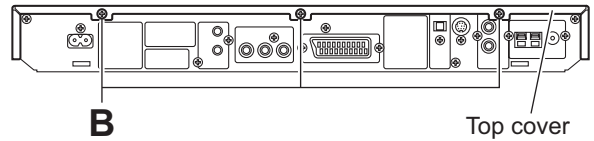

Fig.3
- (2) From the back side of the main body, remove the three screws **B** attaching the top cover. (See Fig.3)
- (3) Lift the rear section of the top cover upward while extending the lower sections of the top cover. (See Fig.3)